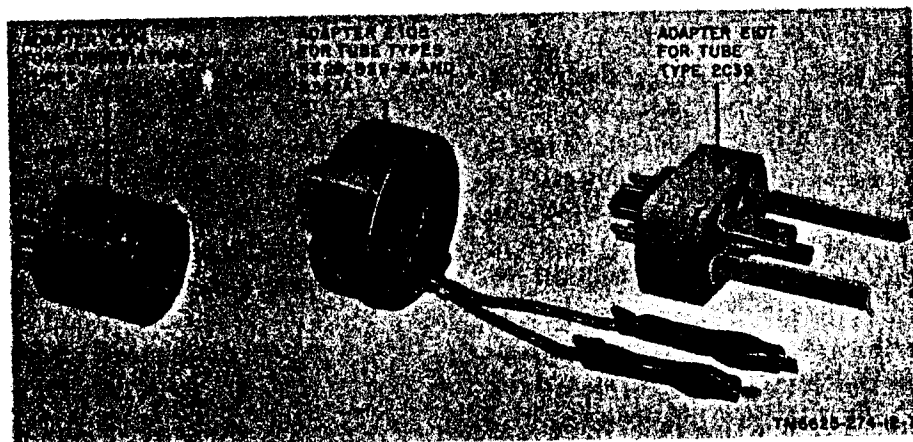

Figure 8. Adapters E104, E105, and E107.
a. *Adapter E104.* Adapter E104 (fig. 8) enables subminiature tubes with long leads to
b. *Adapter E105.* Adapter E105 (fig. 8) enables tube type 3E29, 829-B, or 832-A to be tested in the OCTAL socket of the test set. The adapter consists of a special socket for these tubes mounted on an octal base. The two leads on the adapter connect to the two plate caps of the tube under test.
c. *Adapter E107.* Adapter E107 (fig. 8) enables tube type 2C39 (a lighthouse tube) to be tested in the OCTAL socket of the test set. The three pairs of spring contacts, from the center outward, connect to the cathode and one side of the filament, to the grid, and to the plate, respectively, of the tube under test. The center contact connects to the other side of the filament of the tube under test.